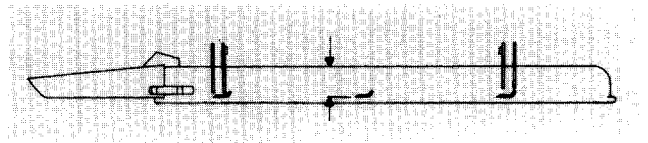

Figure 12
1. Rotate blade until the ends face forward and backward (Fig. 12). Measure from inside of cutting unit to cutting edge at front of blade (Fig. 12), and remember this dimension.